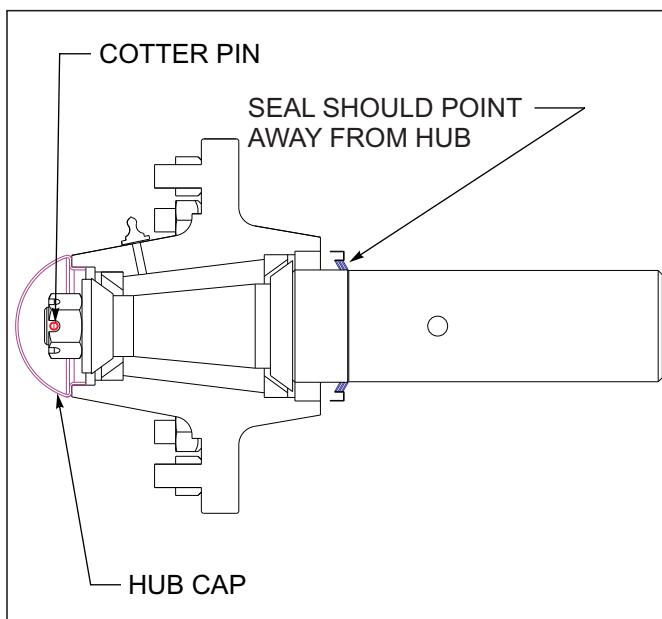

Figure 4-13: Triple Lip Seal
The triple-lip seals should point away from the hub to keep contaminants out and allow grease to pass (See Figure 4-13.)
11. Install a new cotter pin and replace the hub cap. (See Figure 4-13.)